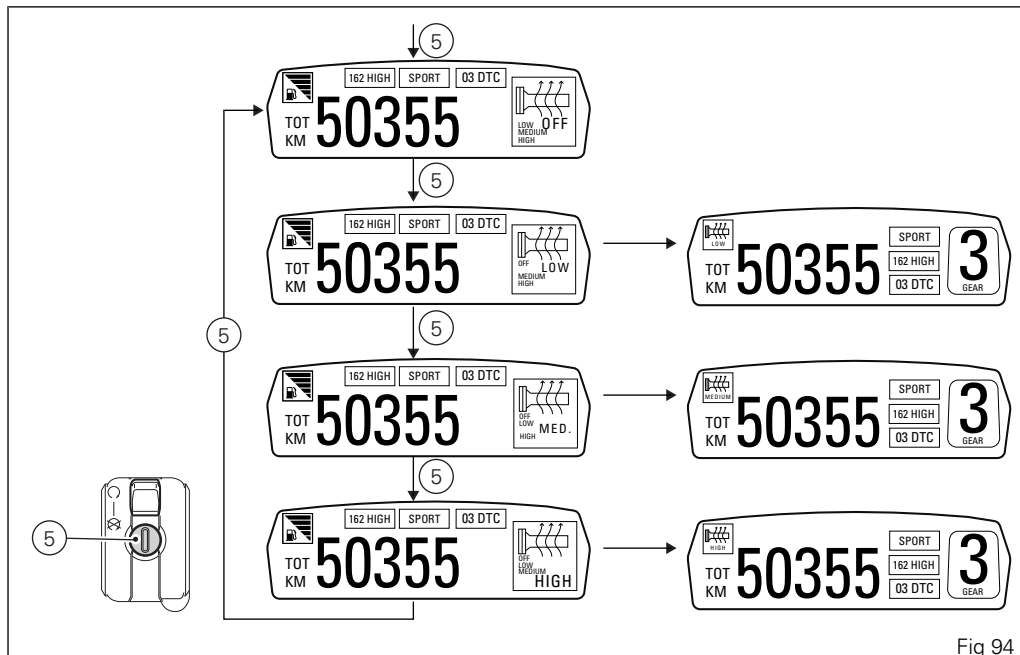

Fig 94
- with Menu 2 disabled (Fig 94);